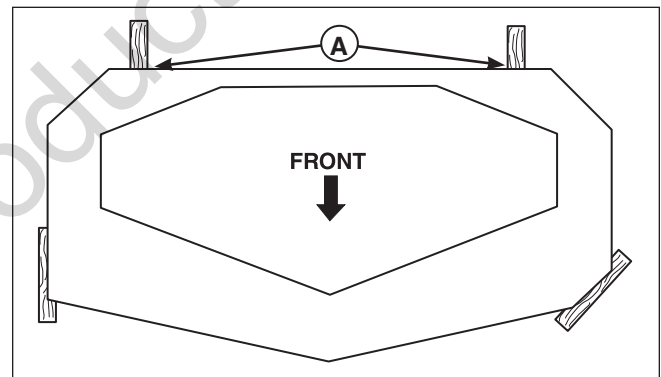

Figure 40. 2 x 4 Locations
6. Refer to Figure 40. Place 2 x 4 blocks under each corner of the mower deck with the 3-1/2" sides being vertical. Place a 1/4" (0,64 cm) thick spacer on top of the rear 2 x 4 blocks.
6. Refer to Figure 40. Place 2 x 4 blocks under each corner of the mower deck with the 3-1/2" sides being vertical.